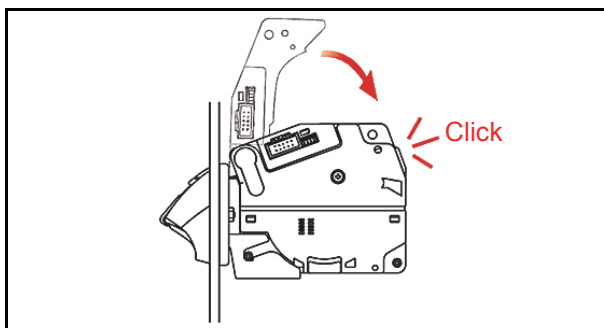

Figure 2-7 Closing the Taiko Upper Lid
12. Close the Upper Lid firmly until a locking Click is heard (See Figure 2-7).